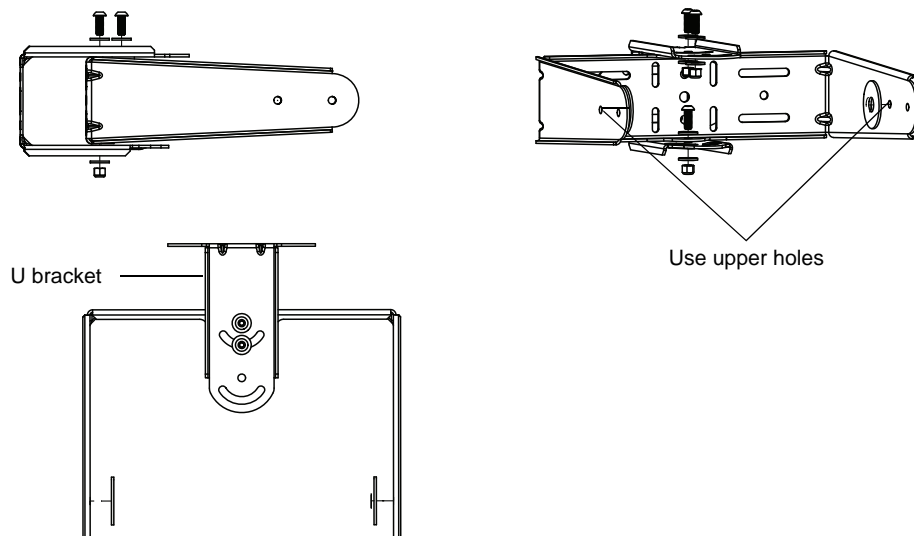

Figure 2-19 Attachment Points for Improved Sight Lines (Top View)
- In cases where minimal vertical or horizontal angle adjustment is needed, use the holes as shown in Figure 2-19 to prevent the blocking of any lines of sight to the screen. You can also combine both of these approaches.